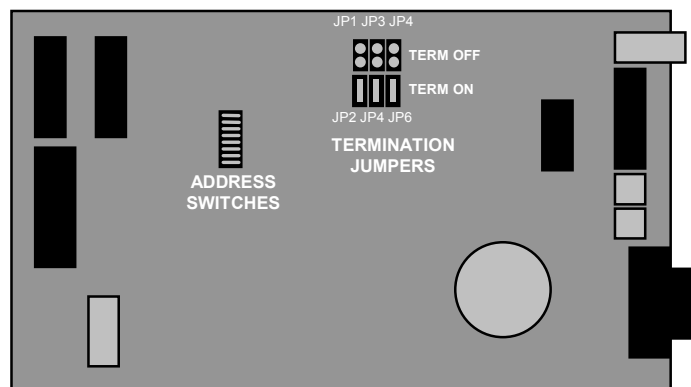

Figure 9 – Termination Jumper Positions
- Set the repeater address in binary using the address switch on the repeater chassis assembly PCB. (See Figure 9 above).